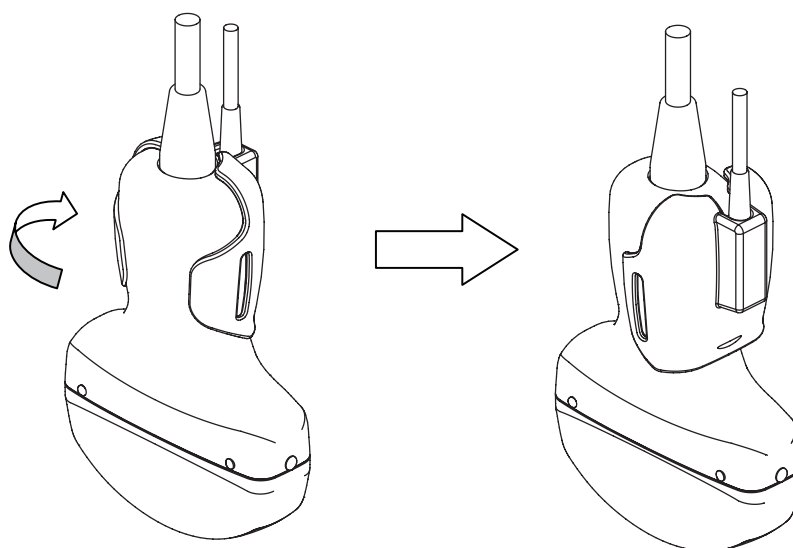

Figure 5 How to release Magnetic Position Sensor Attachment
- (1) Turn the magnetic position sensor attachment clockwise to release it from the probe as shown in Figure 5.